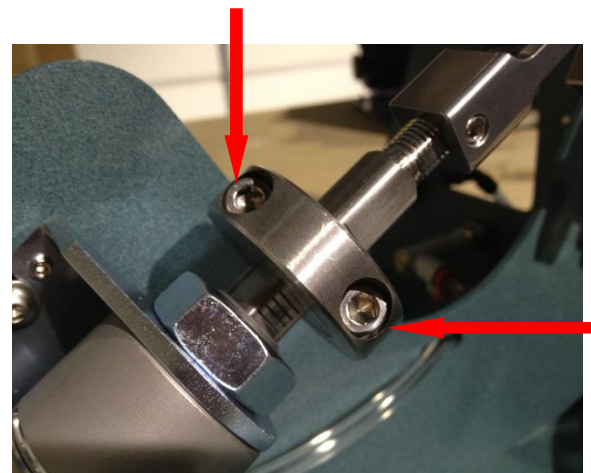

Figure 4
- Break loose the two (2) bolts on each of the three (3) stop collars using a 3/16" hex wrench. Position the stop collars at the same indicator mark on all three (3) cylinder shafts and retighten the bolts. (**Figure 4**)